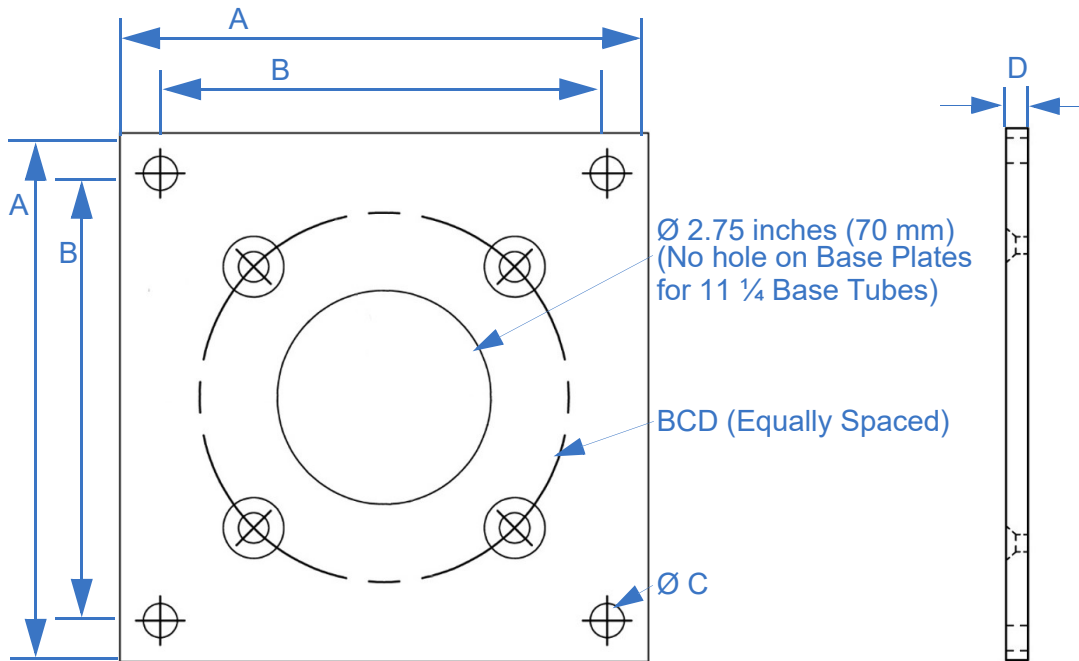
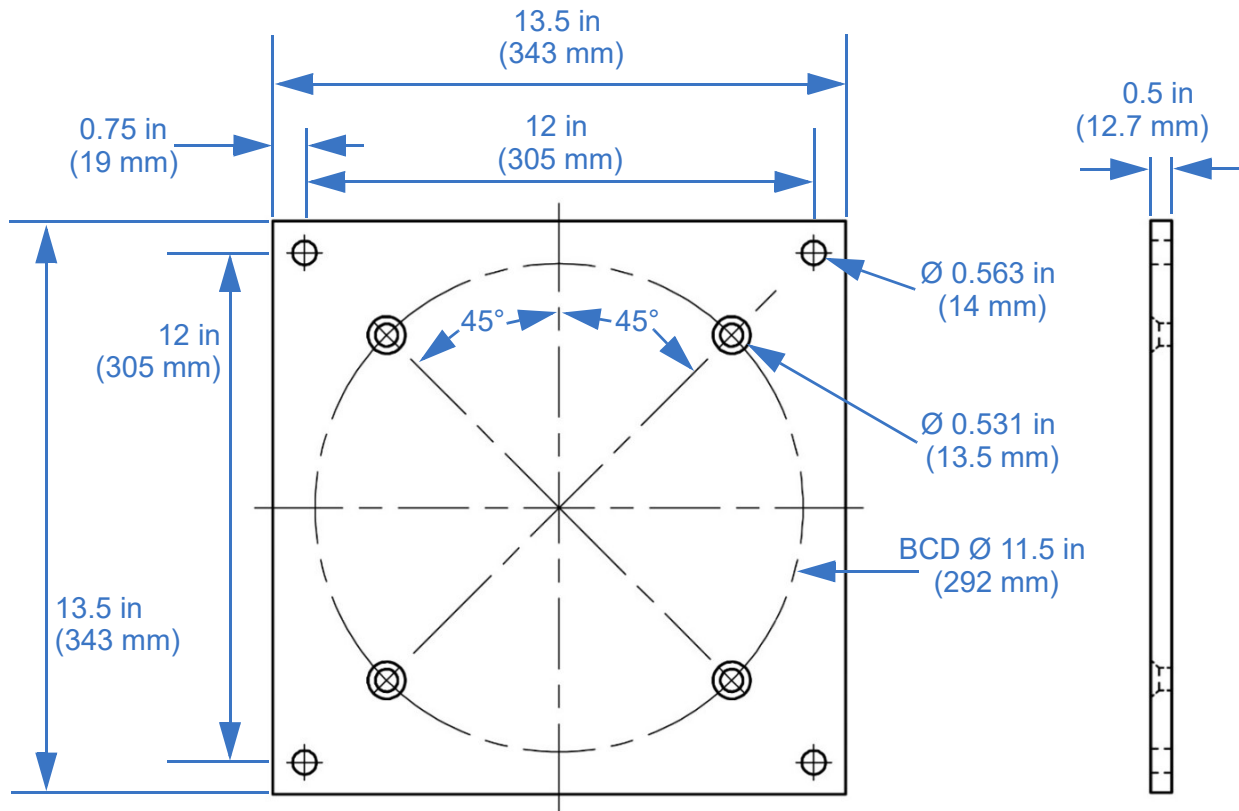

Figure 4-4 Non-Rotating Base Plate Installation Specifications (P/N: 902491 Shown)
Figure 4-5 Ultra Heavy Duty Non-Rotating Base Plate Installation Specifications (P/N: 4995301 Shown)
- Has the dimensions shown in Table 4-8 / Figure 4-4 and Figure 4-5.